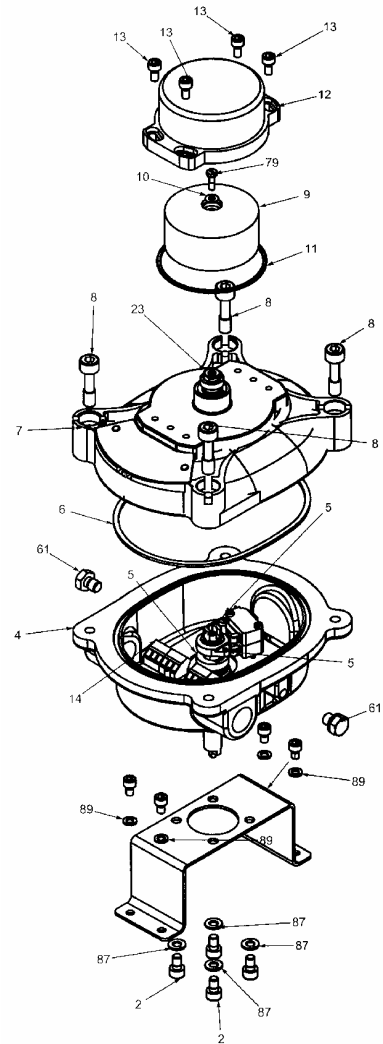
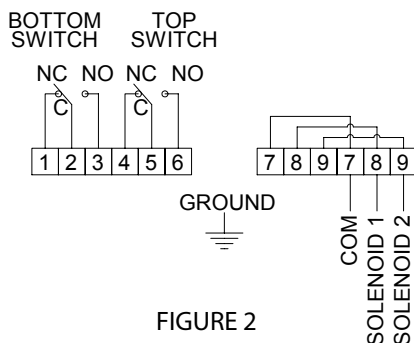

FIGURE 1
FIGURE 2
1. Attach proper mounting bracket (1) to the switch box housing (4) using four M6x8 socket head cap screws (2) provided.
3. Attach bracket to actuator using hardware (3) provided (finger tight only).
**SWITCH ADJUSTMENT (Figure 1)**
2. Loosen switch box cover screws (8) and remove cover (7).
7. Place cover (7) on switch box and tighten. Take care to ensure that cover gasket seal is properly located in seal groove. Tighten screws in a cross pattern.
**ELECTRICAL WIRING (Figure 2 & 3)**
3. Engage wires in terminal strip (14) using a small screwdriver (! " blade).